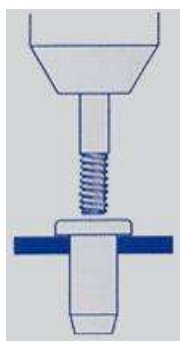

Fig.1
5. Insert the shank of the riveting tool reaches the end. (Fig. 1)